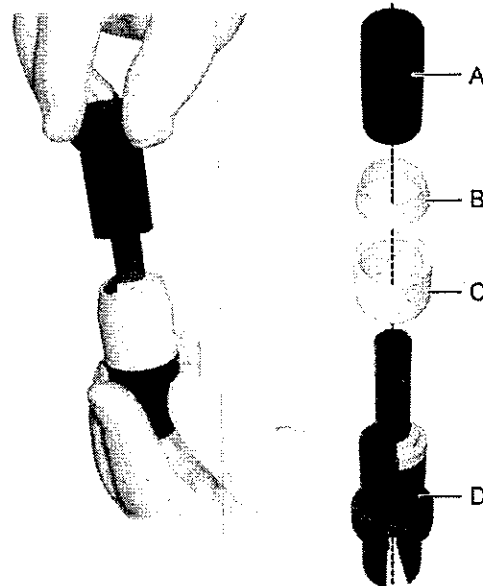

Fig. 7-7 Disassembling the heater-cathode unit
- 1 Assemble the heater-cathode unit as shown in Fig. 7-7, 80. When plugging in the cathode, gently press the connecting legs of the heater together with the fingers.
- One of the connecting legs of the heater is marked by a notch (B). This notch must be located on the side of the change device marked by «IS» (A). This ensures that the installed insulator on the heater is on the correct side of the heating circuit.